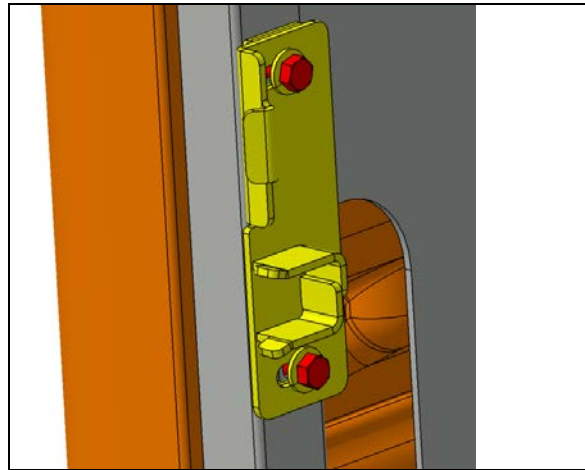

FIGURE 121
14. Perform the transversal adjustment by moving the strike plate using the slotted holes (FIGURE 121).